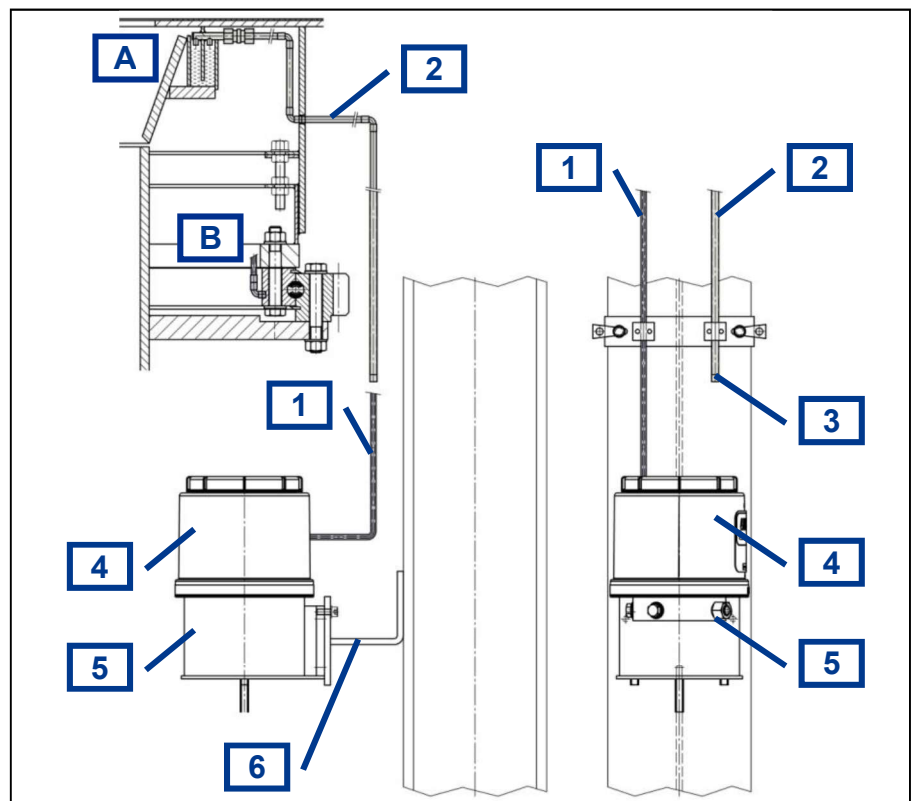

Fig.: 15 Central lubrication (schematic figure)
Attach this holder (**ME50-12**, Fig.: 15/[6]) to the on-site steel structure with carrier clamps.
3. ► Fill the lubrication line (Fig.: 15/[1]) with lubricant.
Ensure that the Lubrication lines are filled with grease Fig.: 15/[1], [2], page 52.
Check the fill level of the grease container (Fig.: 15/[4], page 52).